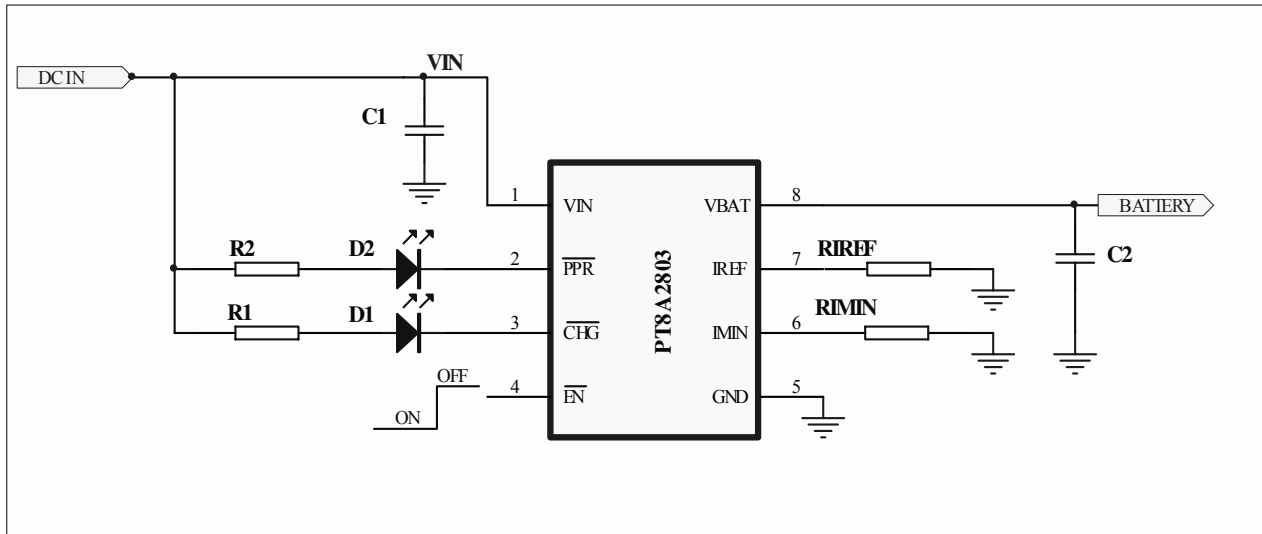
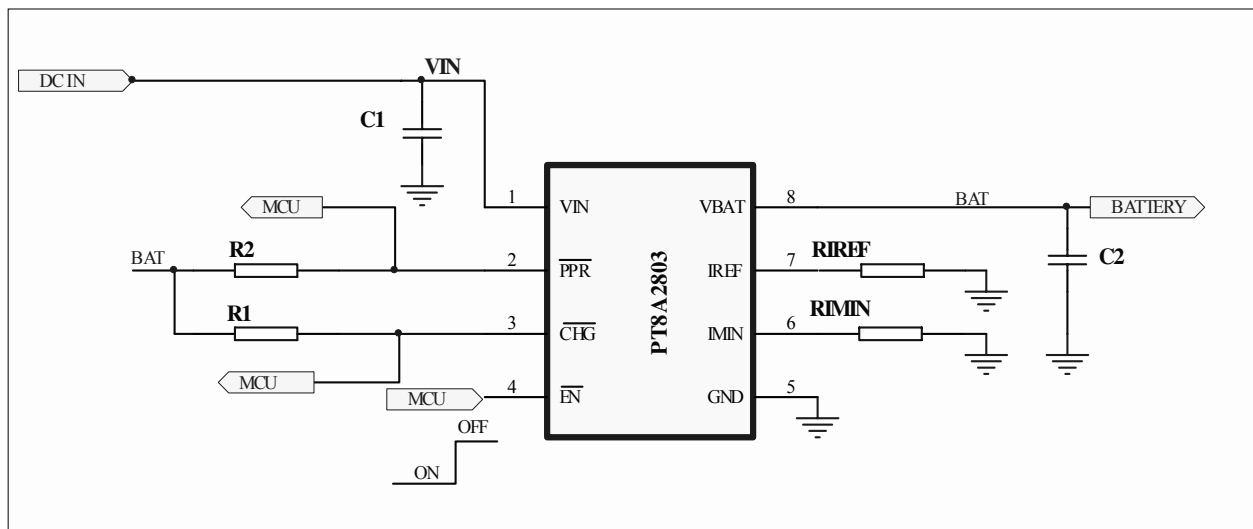
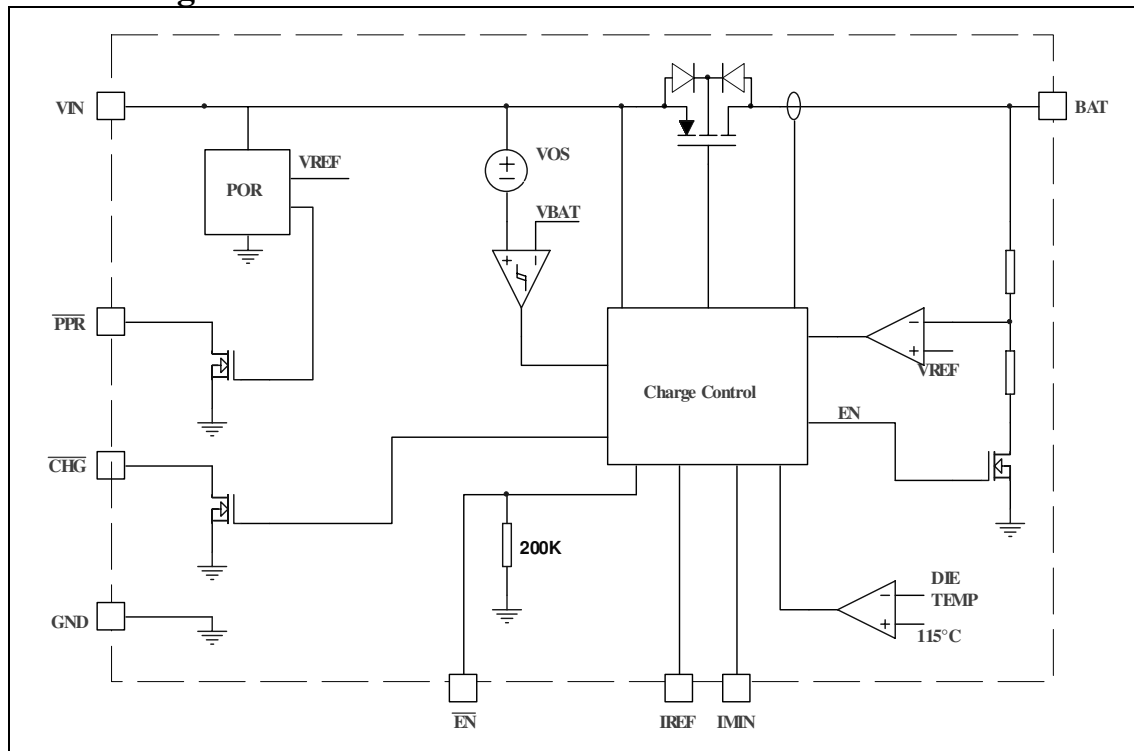
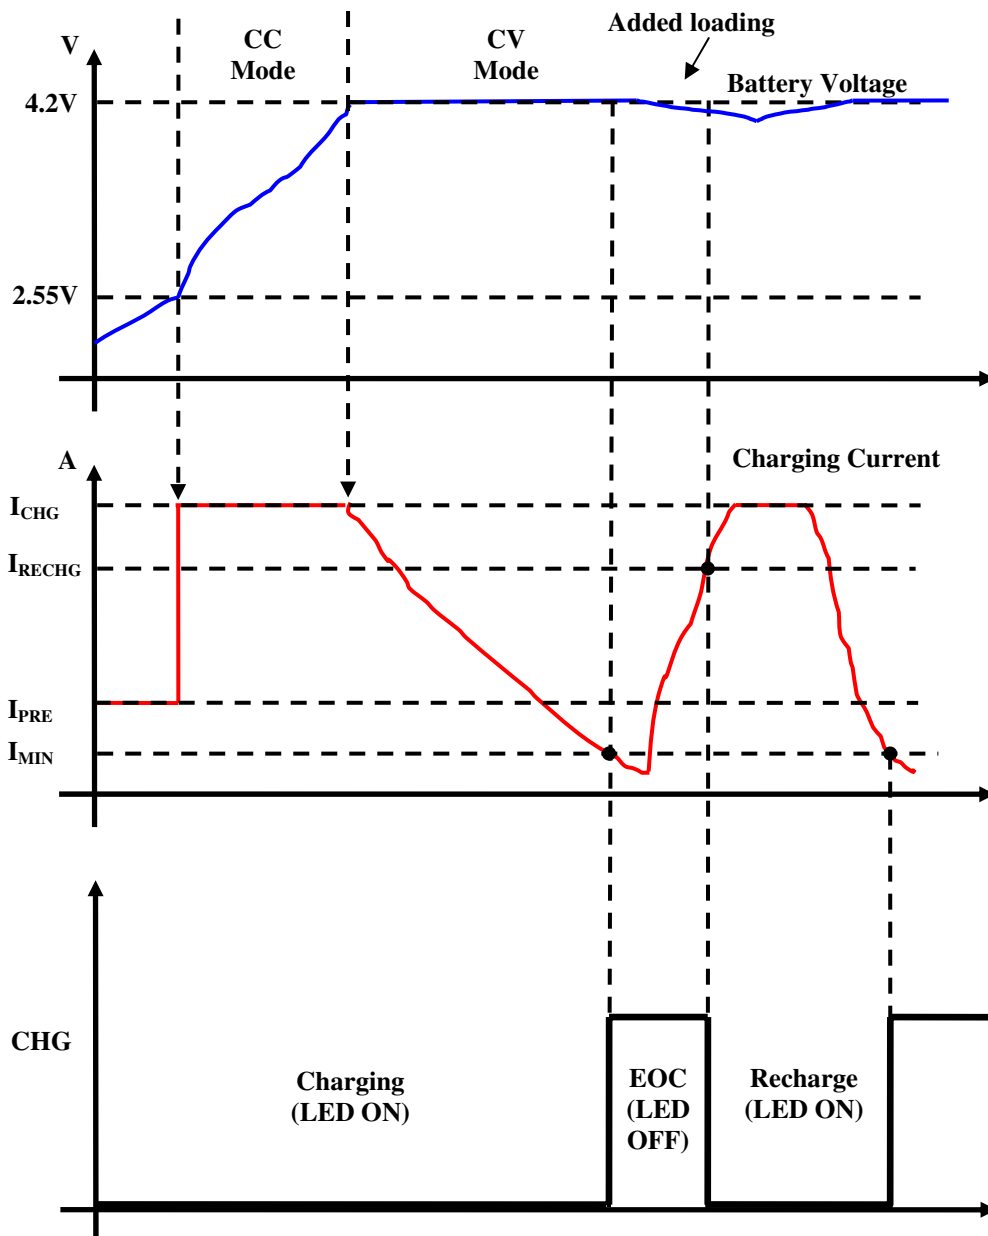

Figure 1 PT8A2803 Typical Application Circuit to Indication LEDs
Figure 2 PT8A2803 Typical Application Circuit Interfacing to a MCU
Figure 3 Block diagram of PT8A2803
Figure 4 PT8A2803 Typical Charge Profile
Component Description for Figure 1
Component Description for Figure 2
The PT8A2803 charges a single-cell Li-ion/Polymer battery with a programmable constant current (CC) or a constant voltage (CV) algorithm. The fast charge current (ICHG) can be programmed by setting an external resistor RIREF (see *Figure 1/2*) while constant voltage is factory-trimmed at 4.2V (4.1V or 4.36V) options area available upon request). If the battery voltage was deeply discharged to lower than 2.55V, PT8A2803 firstly pre-charges the battery with 20% of the programmed fast charge current. Normally, the battery voltage rises gradually during CC charge phase. When the battery voltage reaches almost 4.2V, the charger enters the constant-voltage (CV) charging mode and begins to regulate the battery voltage at 4.2V while diminishing the charging current gradually. When charging current is reduced to an amount smaller than the programmed End-Of-Charge (EOC) current level, the charger gives out a “full-charge” indication through the CHG pin, but the charger still continues to regulate the battery voltage at 4.2V with safe & small current. *Figure 4* shows the typical charge profile with the EOC/reset event.
PT8A2803 employs current recharge algorithm. The end-of charge (EOC) current level can be easily programmed with an external resistor RIMIN (see *Figure 3/4*). The $\overline{\text{CHG}}$ signal turns to LOW when pre-charge starts and rises to HIGH when EOC is reached. After reaching EOC, the charge current has to rise to typically 76% ICHG before the $\overline{\text{CHG}}$ signal will turn on again, as shown in *Figure 4*. The current surge after EOC can be caused by a load connected to the battery.
The $\overline{\text{PPR}}$ pin is implemented as an open-drain output to provide a power-good indication of the input power source such as an AC adapter. When the input voltage is higher than the POR (Power-On Reset) threshold, the $\overline{\text{PPR}}$ pin turns on the internal open-drain MOSFET to indicate a logic LOW signal. The $\overline{\text{PPR}}$ indication is designed to be independent on the chip enable ($\overline{\text{EN}}$ -pin) input. When the internal open-drain FET is turned off, the $\overline{\text{PPR}}$ pin should leak less than 1 μA current. When turned on, the $\overline{\text{PPR}}$ pin should be able to sink at least 10mA current under all operating conditions. The $\overline{\text{PPR}}$ pin can be used to drive an LED (see *Figure 1*) or worked as logic interface to a microprocessor (see *Figure 2*).